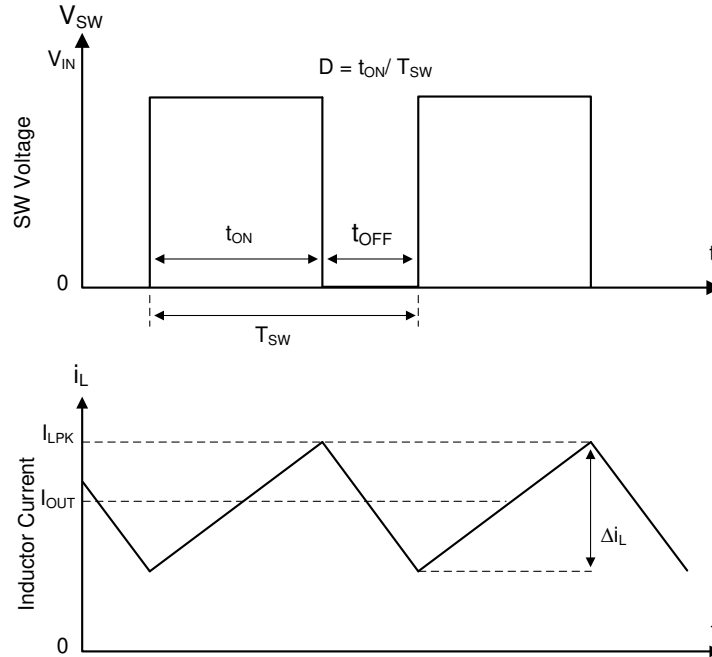

Figure 8-1. SW Node and Inductor Current Waveforms in Continuous Conduction Mode (CCM)
The following operating description of the LMR51420 refers to セクション 8.2 and to the waveforms in 図 8-1. The LMR51420 is a step-down synchronous buck converter with integrated high-side (HS) and low-side (LS) switches (synchronous rectifier). The LMR51420 supplies a regulated output voltage by turning on the high-side and low-side NMOS switches with controlled duty cycle. During the high-side switch on time, the SW pin voltage swings up to approximately V_{IN} , and the inductor current, i_L , increases with a linear slope of $(V_{IN} - V_{OUT}) / L$. When the high-side switch is turned off by the control logic, the low-side switch is turned on after an anti-shoot-through dead time. Inductor current discharges through the low-side switch with a slope of $-V_{OUT} / L$. The control parameter of a buck converter is defined as: